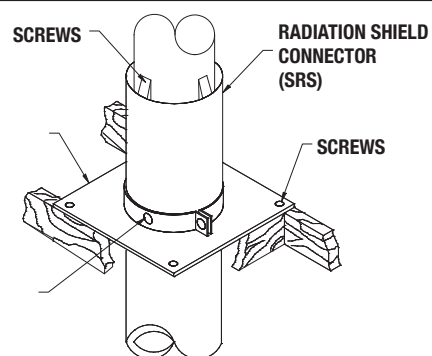

Figure 44
Adjust the height until a minimum of (1") of the Radiation Shield Connector project below the ceiling (see Figure 44).
Step 11: Place the first chimney length on a flat surface with the male coupling on top. Slide a Flexible Shield (FS) on top of that length all the way to the bottom. Attach the flexible shield to the section using 3 x 1/2" stainless steel self tapping screws. Put this assembly on the tee and turn clockwise to lock in place. At the eave level from the top, install a Radiation Shield Connector (SRS) and a Radiation Shield Support (RSSR) attached but not tightened together (Figure 44). Slide the Radiation Shield Connector down until the bottom of the insulated tube exceeds the bottom of the ceiling. Adjust the height until a minimum of 1" of the Radiation Shield Connector projects below the eave. (see figure 42) and tighten the collar support. Stack the next chimney length on the first length. Be sure that the male and female threads are not in line when putting the lengths together. Turn the chimney clockwise to lock it in place. You may add a 1/2" stainless steel self tapping screw to prevent accidental unlocking.